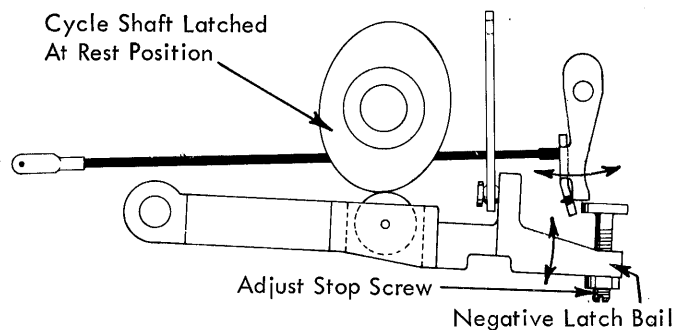

FIGURE 116. Negative 5 Latch Stop Screw
- b. Adjust the negative-5 latch stop screw so that the negative-5 latch (Fig. 116) will reset simultaneously as the check pawl drops into the notch on the check ratchet at the rest position.